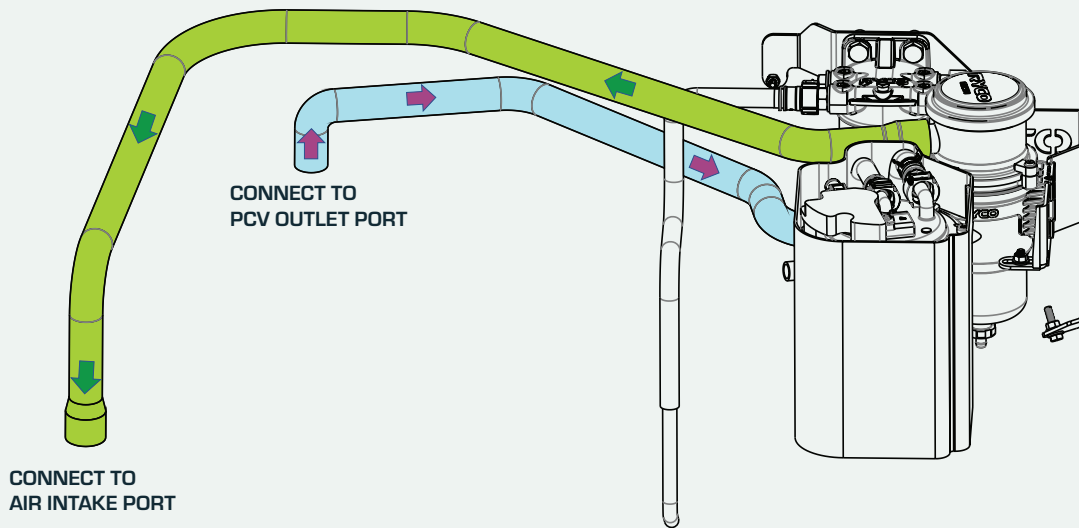

FIGURE 4
- 4 Connect the smaller end (19mm) of the MH9812A Ryco moulded hose (shown blue in FIG. 4) to the engine PCV valve outlet and secure with a supplied hose clamp. Feed the hose behind the engine, under the other engine pipes and around the AC pipes and connect the larger end (25mm) of the moulded hose to the lower port of the RCC351 with one of the large PCV hose clamps. Use FIG. 5A as a guide.
- 5 Feed MH9812B Ryco moulded hose (shown green in FIG. 4) along the top of the first hose ensuring it runs over the factory pipes including the AC pipes. Connect one end to the upper port of the RCC351, securing with a large PCV hose clamp. Connect the other in to the engine PCV air intake port and secure with a PCV hose clamp (FIG. 4).